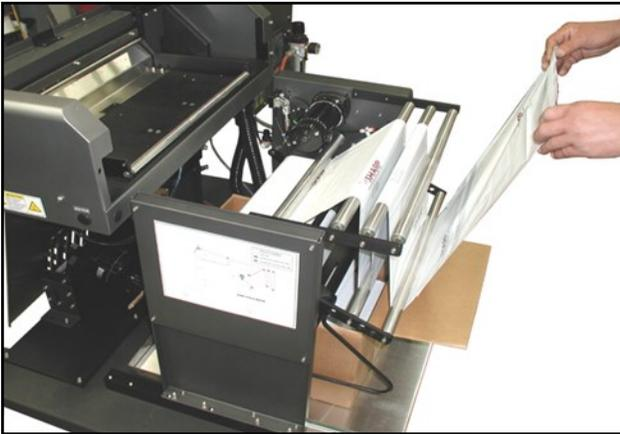

Figure 2-5A. Web Advancement
9. Slowly pull on the web until you have enough slack to reach the front of the bagger. **Figure 2-5A.** As you pull on the web, the Power Unwind will advance web from the fan fold box. The harder